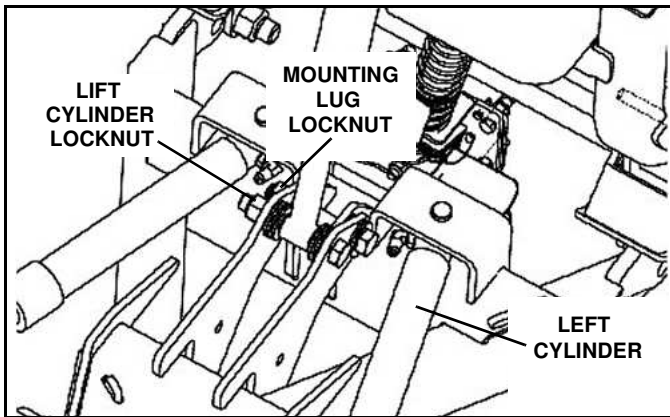

Figure 1-28
- i. Install 3/4" locknuts on both cap screws. The lift cylinder rod end must be able to pivot in the brackets - Do not over-tighten this locknut. (See Figure 1-28).